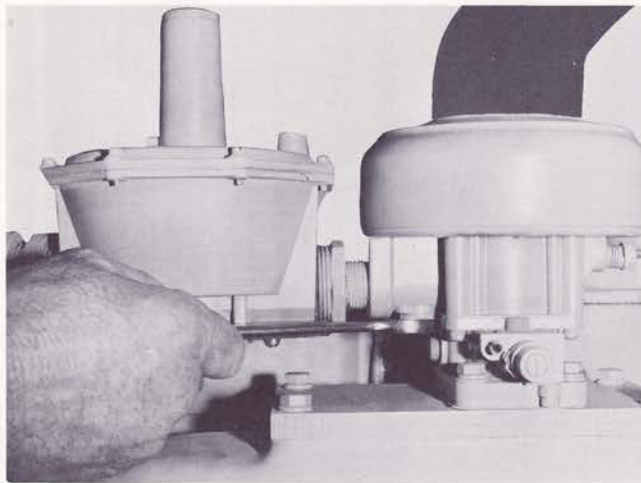

Fig. 4-8. Setting carburetor power mixture
2. Set the carburetor power mixture adjustment valve at center between "R" (Rich) and "L" (Lean) marks. Fig. 4-8.
- b. With engine running at rated rpm and load, move the carburetor power mixture adjustment valve slowly toward the "L" position. Fig. 4-8. Check the intake manifold vacuum reading. Continue to "lean" the gas mixture until intake manifold vacuum reading corresponds with values shown on the following charts for a specific engine at specified speed and horsepower.